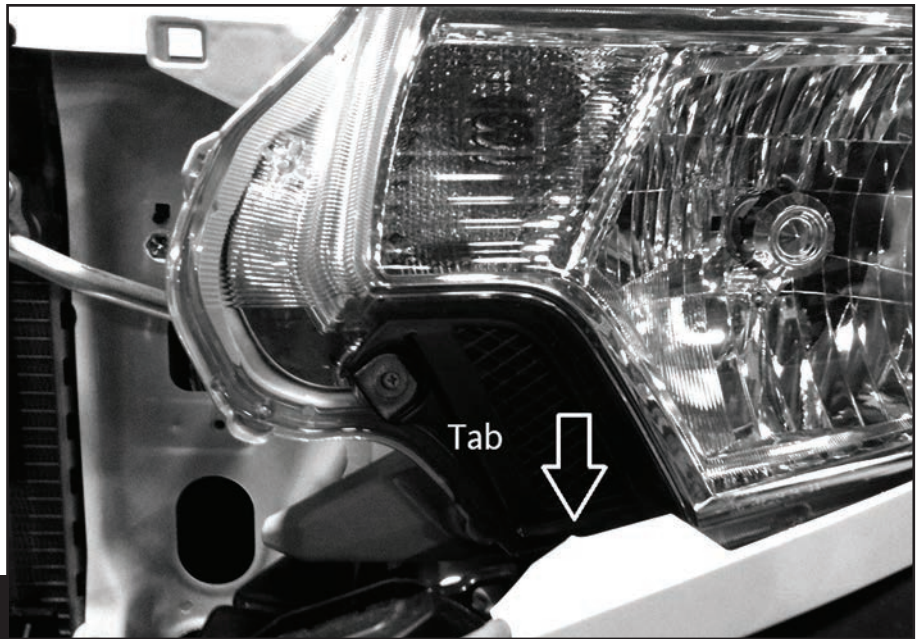

Fig 2
2. Pull out lower headlight filler from the grill opening. There is a push-in clip holding it in. Once popped out, slide the piece toward the center of the truck, allowing it to slide off the fender tab. Keep part for reinstall later (**Fig 2**).